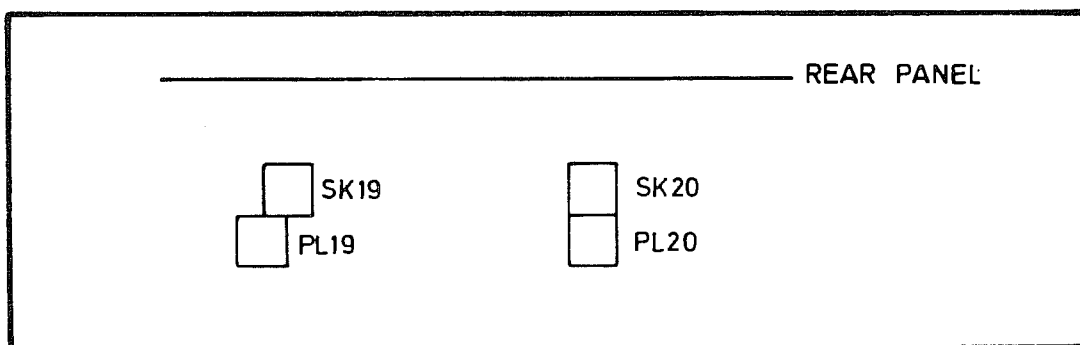

Fig 3.2 Connector Alignment
- 48 (1) Disconnect the AC power cord at the rear panel.
- (2) Remove the two screws securing the board to the rear panel, and remove the bezel.
- (3) Remove the top cover by sliding it towards the rear of the instrument. If the temperature compensated crystal oscillator (TCXO) is fitted, remove the screws holding this to the rear panel.
- (4) Remove the four screws securing the rear panel to the side members and ease the rear panel back from the chassis. Take care not to strain the connecting wires.
- (5) Remove the two plastic plugs covering the EXT STD INPUT and 10 MHz STD OUTPUT connector holes.
- (6) Remove the nuts from the BNC connectors. Pass the connectors through the rear panel and secure the BNCs with the nuts on the outside.
- (7) Replace the rear panel, taking care to align the connectors PL20/SK20. Note that the connectors PL19/SK19 are staggered when fitted correctly, see Fig 3.2: